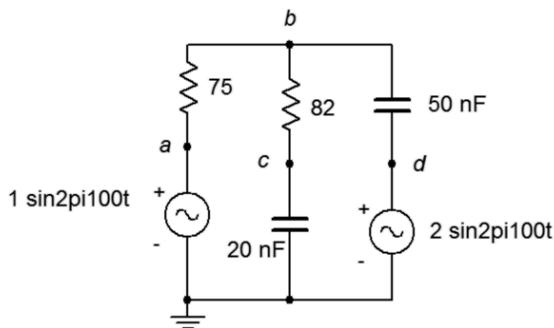

Figure 5.2
3. Use Superposition to find the current through the  $82 \Omega$  resistor. For the circuit shown in Figure 5.2.
4. Use Superposition to find  $v_b$  and  $v_{cd}$  for the circuit shown in Figure 5.2.